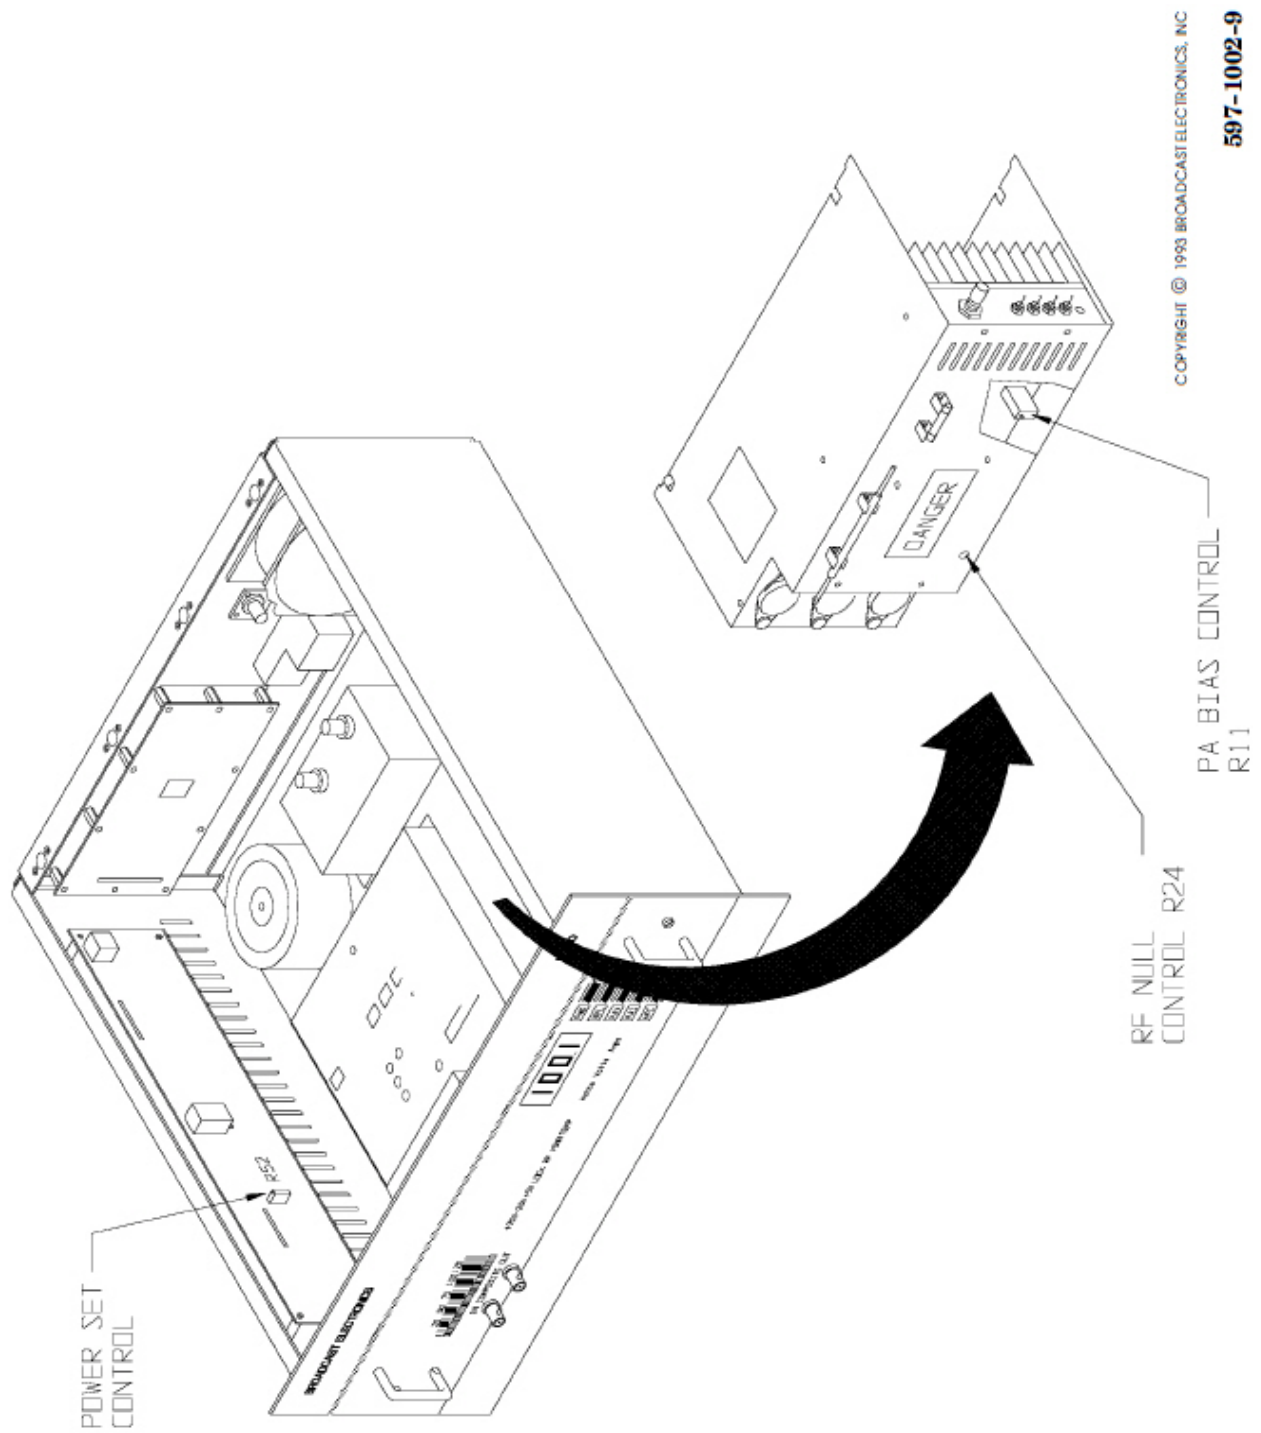

Figure 10-2. RF AMPLIFIER CIRCUIT BOARD CONTROLS.
- B. Remove the transmitter top-cover and the access hole plug at the top and rear of the RF amplifier assembly (refer to Figure 10-2).
- F. Refer to Figure 10-2 and adjust R24 for minimum reflected power as indicated on the front-panel meter.
- D. Refer to Figure 10-2 and remove the screws securing the RF amplifier assembly to the mounting bracket/shield.
- E. Refer to Figure 10-2 and reinstall the RF amplifier assembly in the chassis as shown.
- F. Refer to Figure 10-2 and connect J15 to P15 of the RF amplifier assembly power/ control cable.
- G. Refer to Figure 10-2 and connect P18 to J18 on the rear of the RF amplifier assembly.
- J. Refer to Figure 10-2 and adjust PWR SET control R52 on the power supply/control circuit board fully counter clockwise.
- N. Refer to Figure 10-2 and adjust R11 for 500 milliamps (0.50A) as indicated on the front-panel meter.
- O. Refer to Figure 10-2 and connect P17 to the RF amplifier.
- P. Refer to Figure 10-2, adjust PWR SET control R52 until the meter indicates the value recorded in step A.